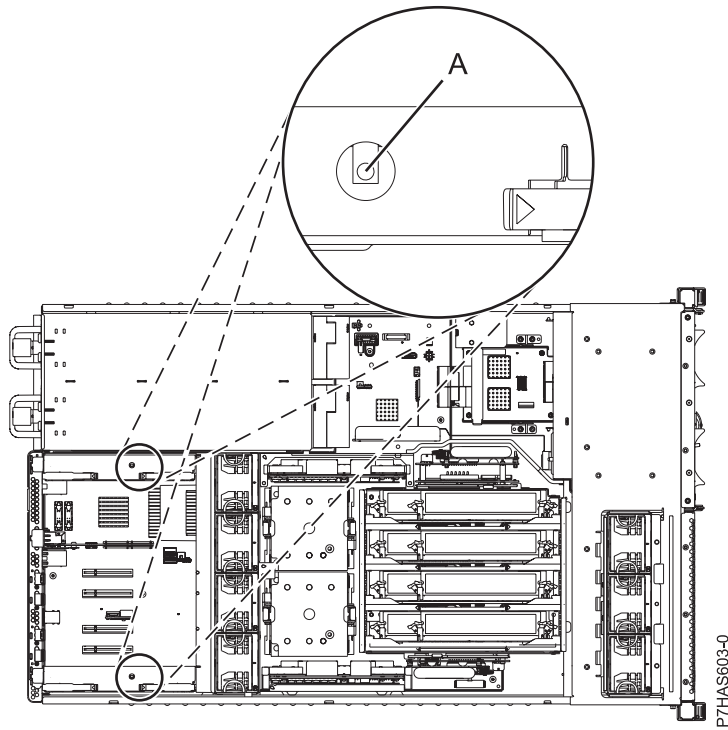

Figure 4. GX adapter LEDs
- Use the service label located on the underside of the service access cover.Figure 4 on page 6 shows the LEDs (A) associated to the GX adapters.